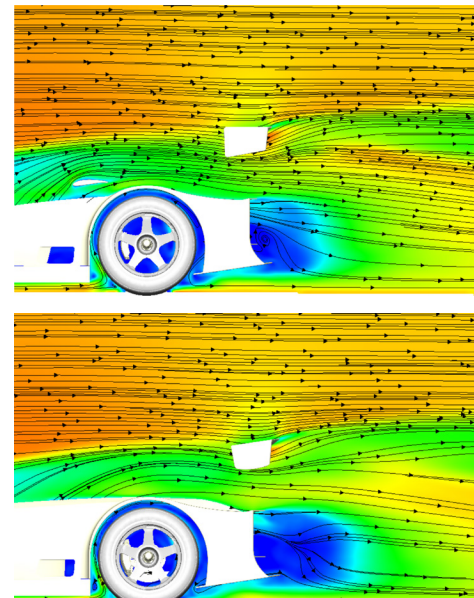

Figure 5: Flow patterns with (top) and without (bottom) the rear fender turning vane.
The regulation for the second Fuji race in 2012 stipulated that engineers were at liberty to tweak the design of the rear fender. From that time onward, this has become a standard measure for all Formula (F) 1 races. Following the rule change, NISMO attached turning vanes that had winged cross-sections mounted on the rear fender (figure 5). According to Yamamoto, the primary goal was to create an eye-catching external appearance that could be presented in the Formula One (F1) Series.
In addition to its distinctive appearance, it also contributed positively to the rear wing performance. As can be seen in figure 5 (top), CFD results showed the air flow churned up from the wheel arch lip on the front fender alleviated the breaking away at the rear fender and top surface of the trunk lid. As shown in figure 5 (bottom), the addition of the rear fender turning vane changed the flow pattern and improved the flow attachment towards the trunk lid. This ultimately helped reduce the drag and improve the efficiency of the rear wing.